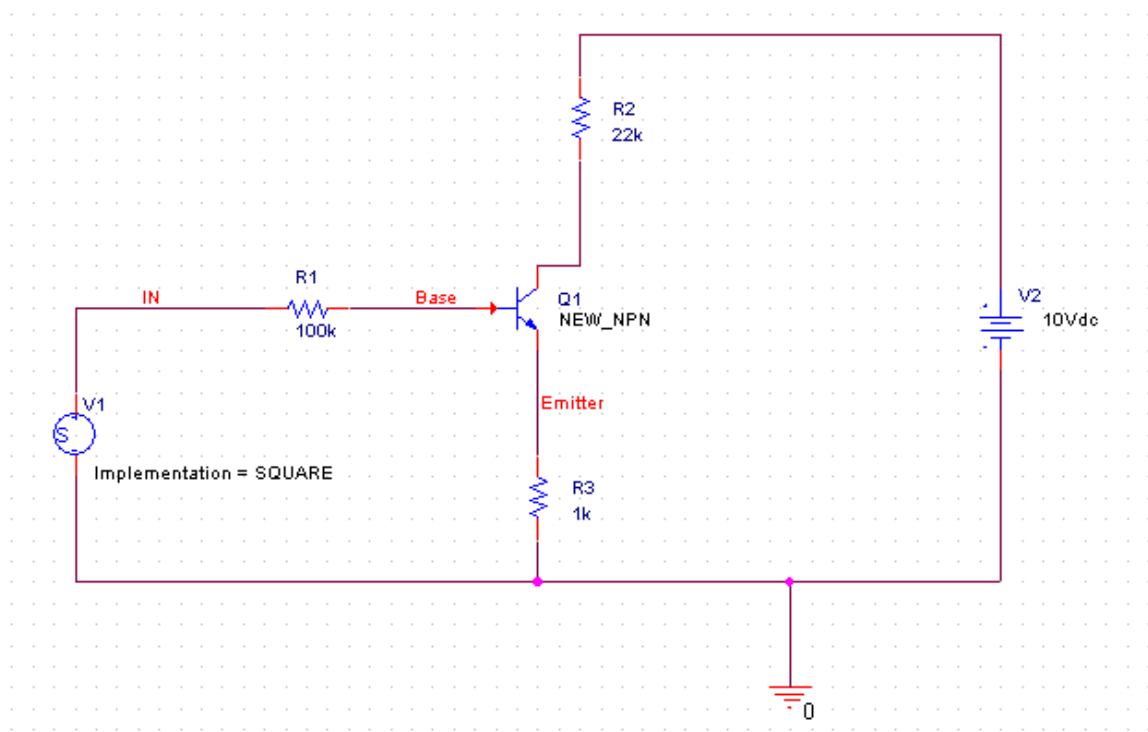

Figure 1-16: Common-Emitter Amplifier schematic in OrCAD Capture
Figure 1-16 shows an image of a common-emitter amplifier that you will create for the first exercise. You will later move on to a two-transistor RF amplifier and then to a band-pass filter to explore some of the advanced capabilities of the PSpice simulator.
26. Once the components have been placed, wire the components as shown in Figure 1-16. Wires will bend as you move them from point to point. Start by right-clicking on a pin and then move to another component’s pin to create the connection. To add a wire, enter the wiring mode by selecting **Place > Wire** or typing in **W**. While right angles are automatic during the wiring, you can do a left click to force a right-angle location. To leave a wire in space, double-click or right-click and select **End Wire**.
Change the component values so that they are the same as shown in Figure 1-16. When names get long or the page is crowded, you can drag the properties to locations that are more suitable. In this example, you should move the 10Vdc property to a better location.
Add the **IN**, **BASE**, and **EMMITER** signals, as shown in Figure 1-16. Select **Place > Net Alias** to add the signal names.